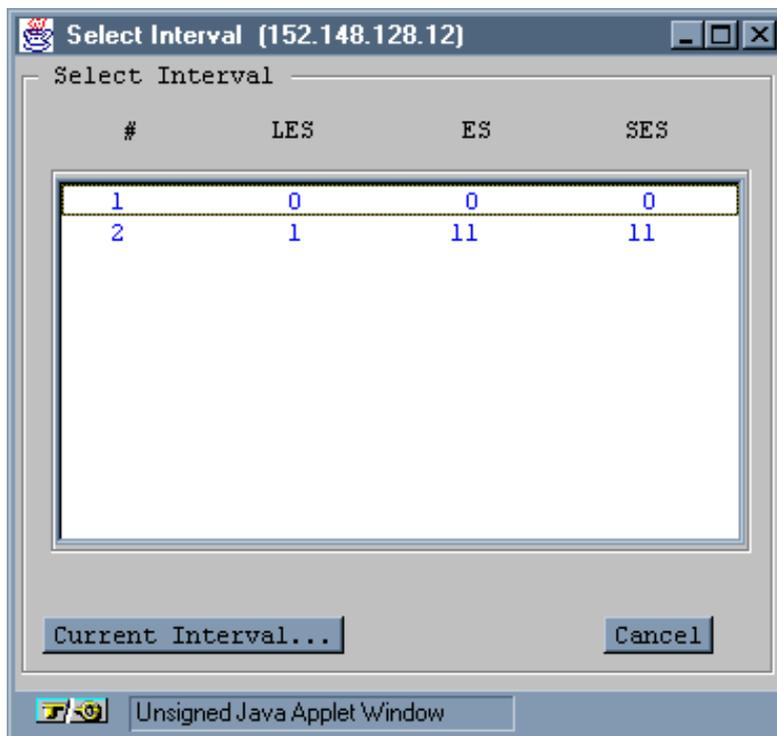

Figure 6-17. Select Interval Window
1. Choose the Intervals button in the Display DS1/E1 Port Status window. The Select Interval window appears (Figure 6-17).